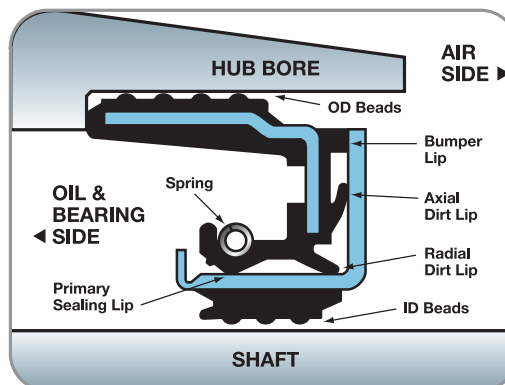

Figure 1
**SKF Scotseal® PlusXL** is a rubber unitized, one piece design. The Scotseal PlusXL consists of four sealing lips; a spring loaded primary sealing lip with patented Waveseal® design that is factory pre-lubed, a radial and axial dirt lip, plus an outer bumper lip that acts as a preliminary dirt excluder. Scotseal PlusXL requires no special installation tools and maintains a rubber-to-metal contact between the seal O.D. and the hub bore surface as well as a rubber-to-metal contact between the packing I.D. and spindle. (See Figure 1)